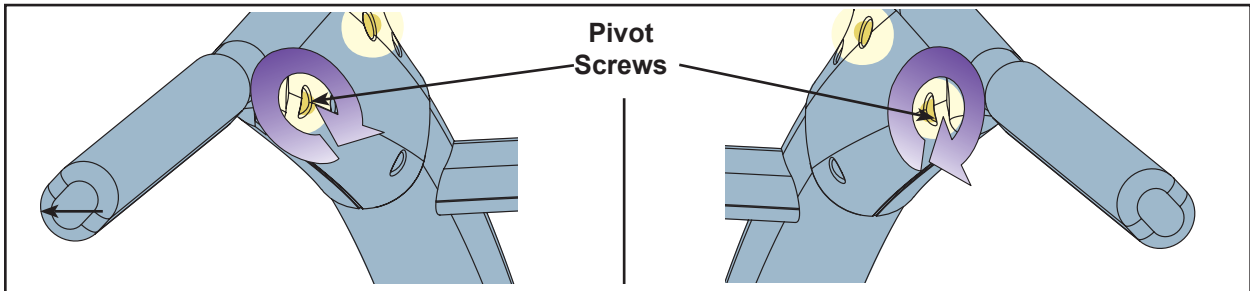

Figure 8
B. Using the Allen wrench provided, tighten the two pivot screws on the handrail. See Figure 8.